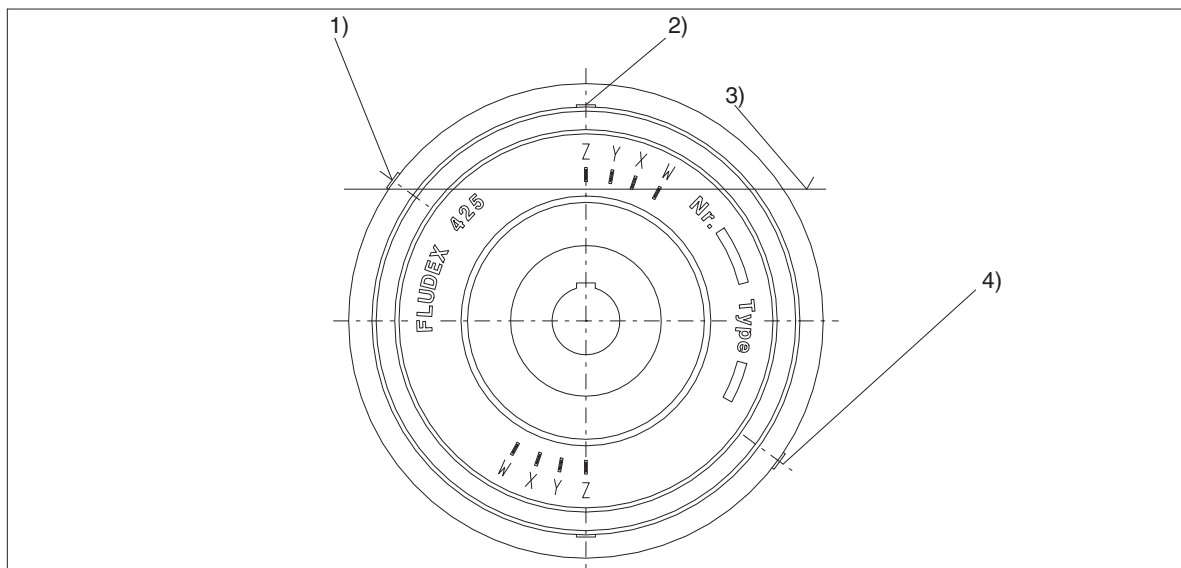

Fig. 11: Filling
The operation fluid should be filled in through a fine filter element (mesh width $\leq 30 \mu\text{m}$) on the filler plug (153), see figure 11. Only these filling holes are provided with a filling channel, which offers protection against accidental overfilling. To better ventilate the inner chamber, the screw plug / fusible safety plug (163) inserted in the outer flange, or the second fusible safety plug (103), should be unscrewed. It is set at an appropriate angle so that, in the event of imminent overfilling, the excess can escape there.